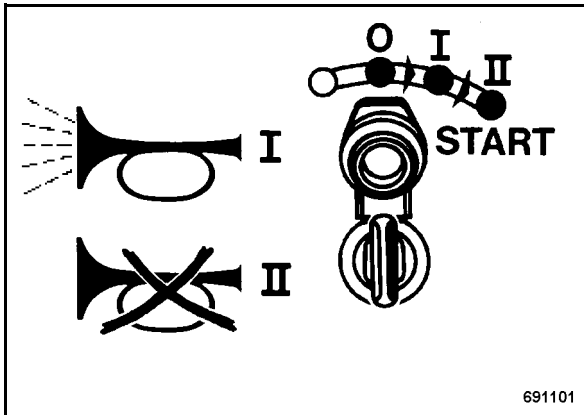

Fig. 23
- Turn the ignition key to position I (Fig. 23), the warning buzzer does not sound.